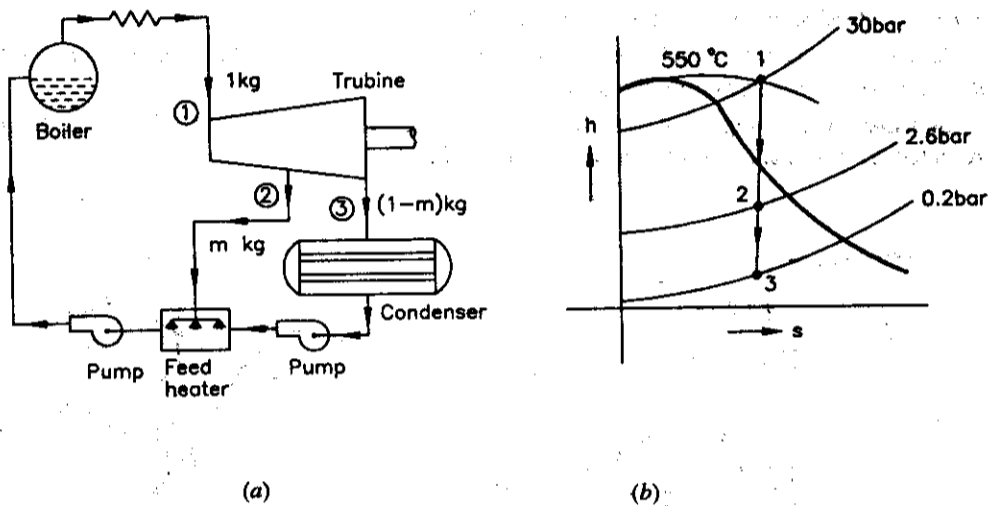

Fig. Prob. 22.21.
**Solution.** The arrangement is shown in Fig. Prob. 22.21 (a) and the processes are represented on  $h$ - $s$  diagram as shown in Fig. Prob. 22.21 (b).
The points 1, 2 and 3 are marked on  $h$ - $s$  chart as shown in Fig. Prob. 22.21 (b) and enthalpies are noted down